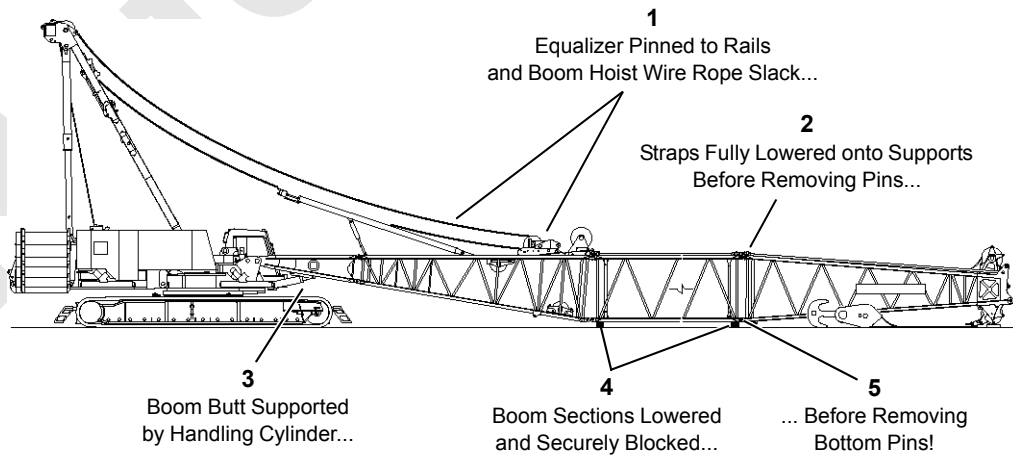

FIGURE 2-4
- Do not remove bottom connecting pins from any boom section when the boom is supported by straps (Figure 2-4, View A).
- Do not remove strap connecting pins until straps are fully lowered into supports (Figure 2-4, View C).
- Do not remove bottom connecting pins from any boom section when the boom point is resting on the ground and the boom butt is not supported by the handling cylinder (Figure 2-4, View B).
- Never work or stand inside the boom unless it is lowered and securely blocked (Figure 2-4, View C).